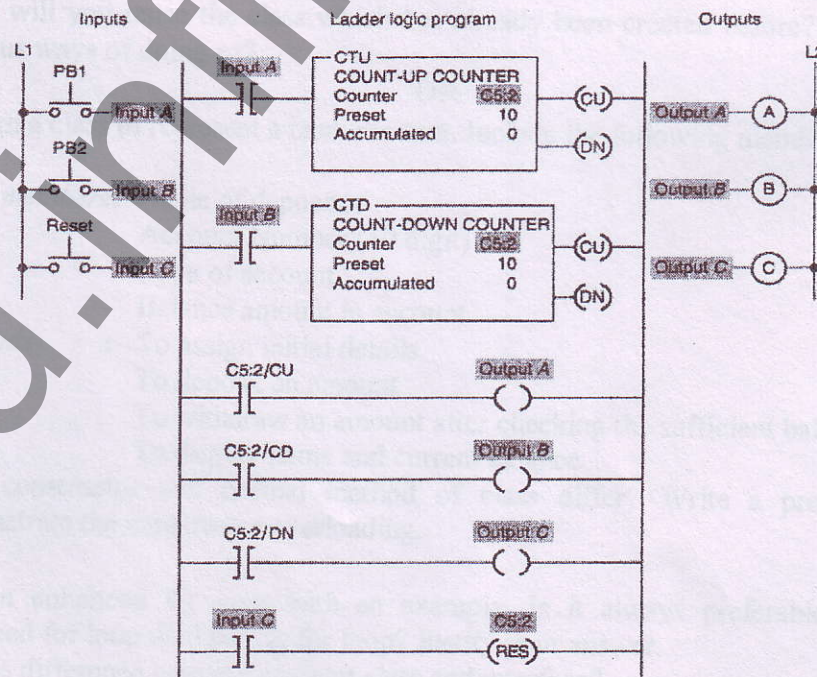

Figure 2(Que 5(A))
- (A)** Answer the following questions with reference to the up/down-counter program shown in Figure 2. Assume that the following sequence of events occurs: Input C is momentarily closed → 20 on/off transitions of input A occur → 5 on/off transitions of input B occur. 7
- (B)** Explain in detail different addressing format of Allen-Bradley PLC-5, SLC-500 and Logix5000 controllers. 4
- Que-6 (A)** Compare the PLC and PC with regard to: 4